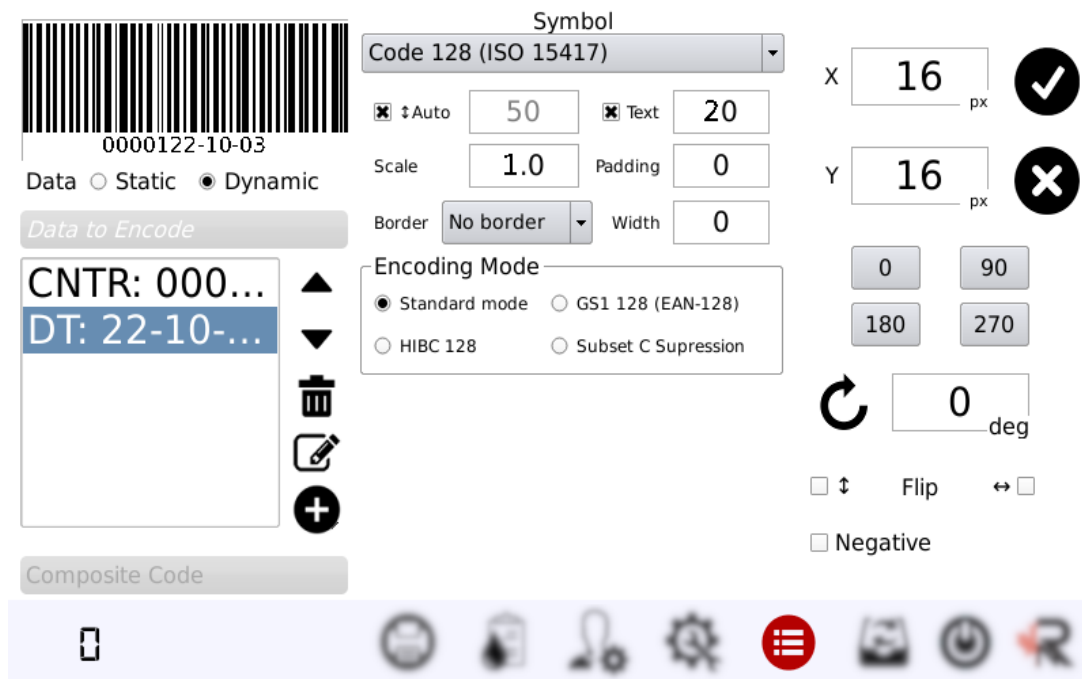

Figure 31: Dynamic Barcode object
- Dynamic data: barcode becomes a dynamic object; it may contain multiple fields of dynamic text (Figure 31).